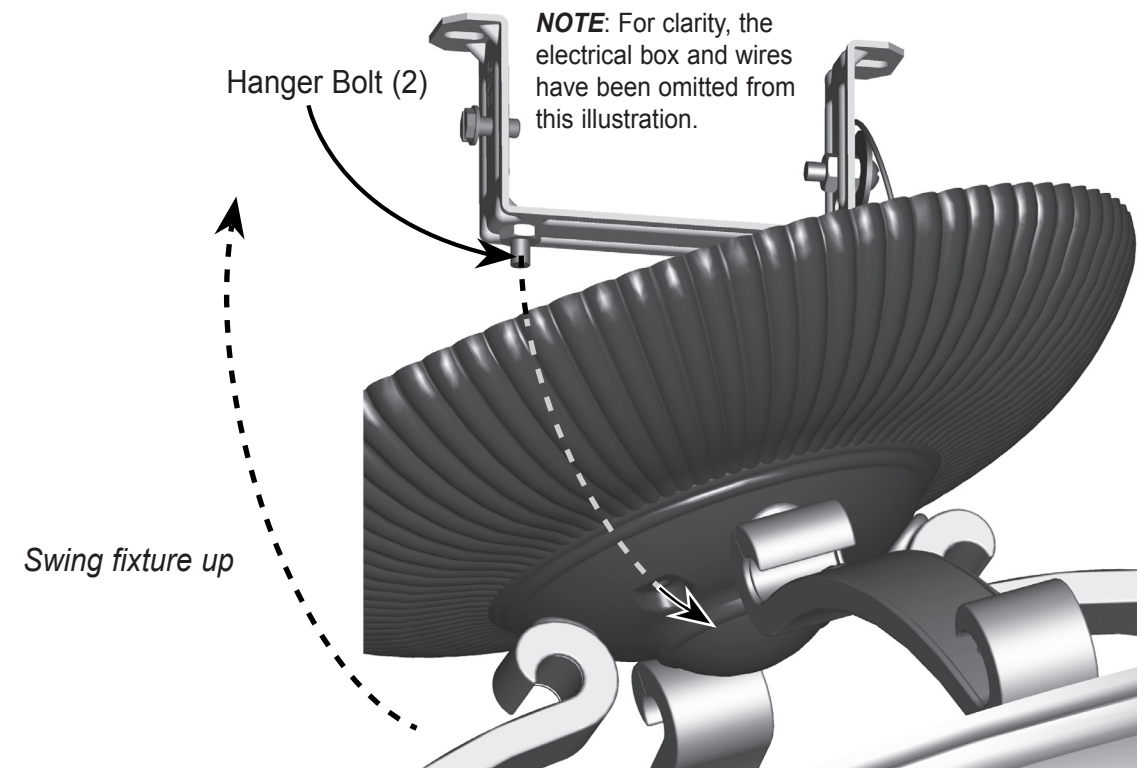

Figure 8 - Positioning the Fixture
5) Swing the Fixture up so that the two Hanger Bolts exit their associated holes. See Figure 8.